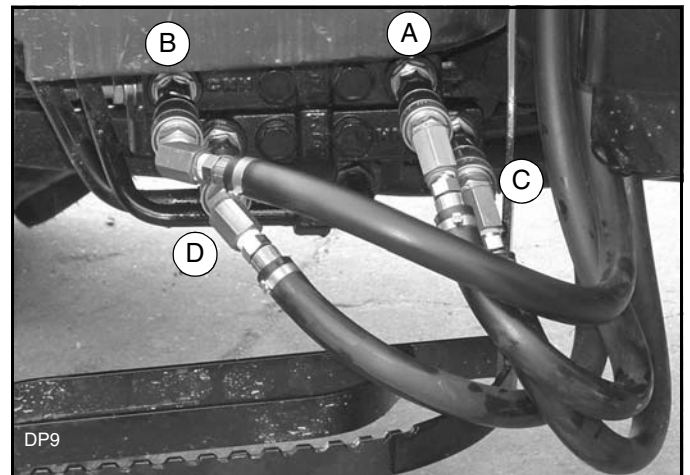

Figure 29. Hydraulic Hose Connection to Tractor Valve
Connect hoses to the hydraulic quick couplers as shown in Figure 29.
2. Connect loader feedline hoses to control valve hydraulic couplers (See Figure 29).